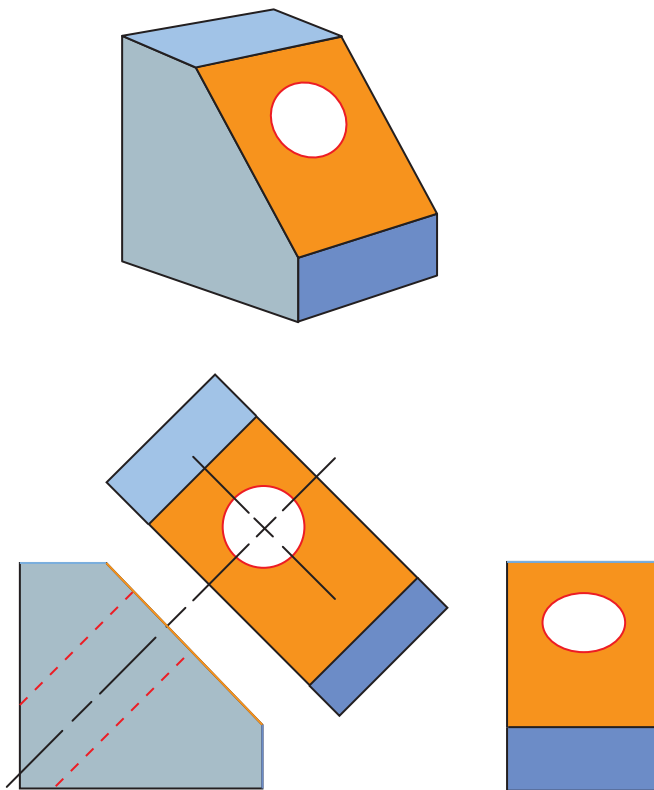

Figure 3.27 Distortion of lines
- A *rotated view* can be used to show a surface of the part that would not normally be drawn square to any of the six normal view planes. If a surface is not square to the viewing angle, then lines may be distorted. For example, when viewed at an angle, a circle looks like an ellipse, Figure 3.27.